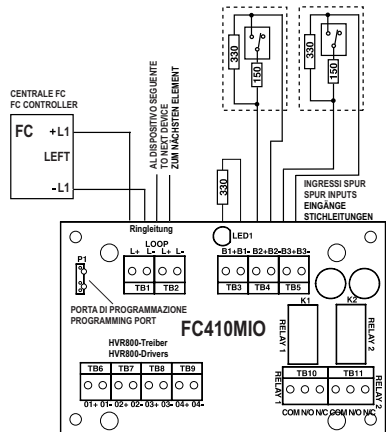

Fig. 3: SPUR circuits (Class B) Normally Open Contacts, Short Circuit = Fault.
- See Fig. 3 and 4 for FC410MIO simplified wiring diagrams.